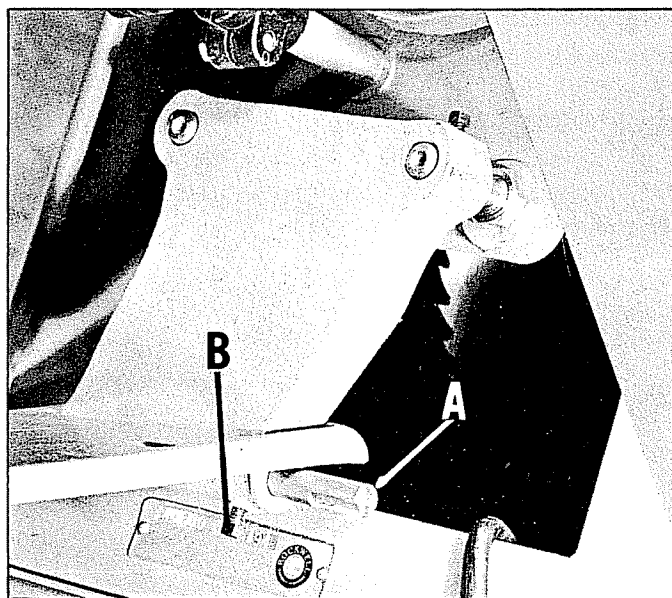

Fig. 4.
4. Place the motor mounting plate in position, as shown in Fig. 4, and insert rod (A). Tighten set screw (B) against the flat surface of the rod.